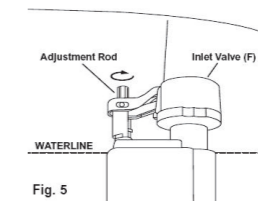

Fig. 5
6. To set the water level, connect the water supply, set the float cup level with the waterline by turning the adjustment rod on the inlet valve (F) so that the float sits level with the float cup, ensure the float (when raised) does not eject from the float cup. (see **Fig. 5**)